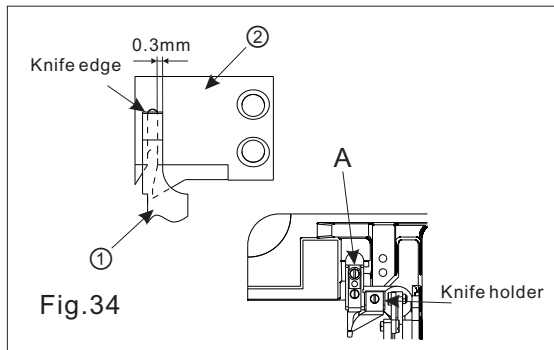

Fig.34
2. The relation between fixed knife and moving knife (Fig.34)
- 1) The clearance between fixed knife ① and moving knife ② should be 0.3mm
- 2) Adjust the position illustrated by the Fig.34.